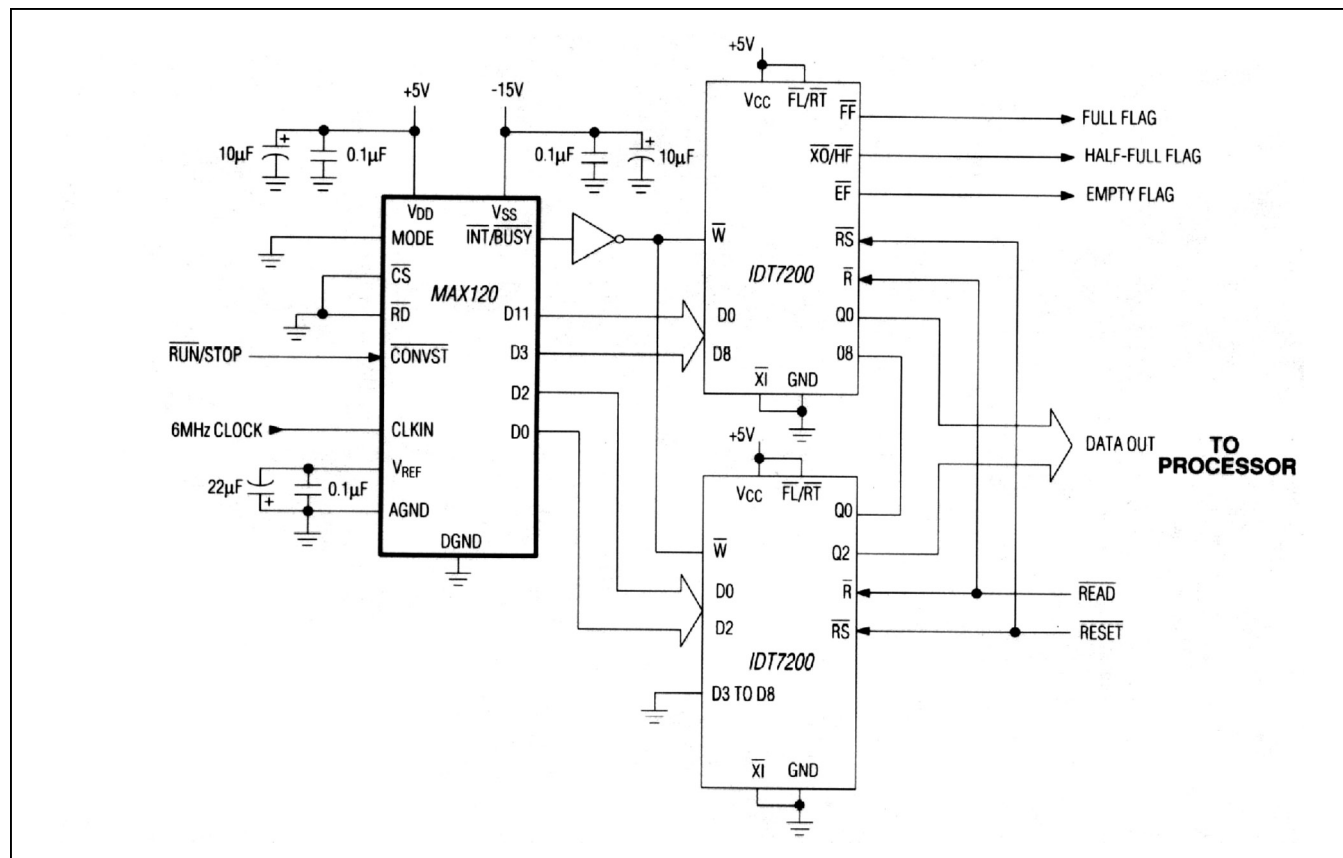

Figure 13. Using MAX120 with FIFO Memory
Using FIFO memory to buffer blocks of data from the MAX120 reduces μ P interrupt overhead time by enabling the μ P to process data while the MAX120, unassisted, writes conversion results to the FIFO. To retrieve a block of data, the μ P reads from the FIFO via a read-interrupt cycle. Read and write operations for the FIFO are completely asynchronous. Figure 13 shows the MAX120 operating in continuous-conversion mode (mode 5), writing data directly into the two IDT7200 256 x 9 FIFO buffers at the rate of 428ksps. The μ P is interrupted to read the accumulated data by the FIFO's half-full (HF) flag approximately three times per millisecond. For operation at 500ksps, use an 8MHz clock, and pulse \overline{CONVST} at 500kHz. The full flag (FF) indicates that the FIFO is full. If this flag is ignored, data may be lost. If necessary, conversions can be inhibited by pulling \overline{CS} , \overline{RD} , or \overline{CONVST} high. The FIFO's read cycle times are as fast as 15ns, satisfying most system speed requirements. The RESET input resets all data in the FIFO to zero.